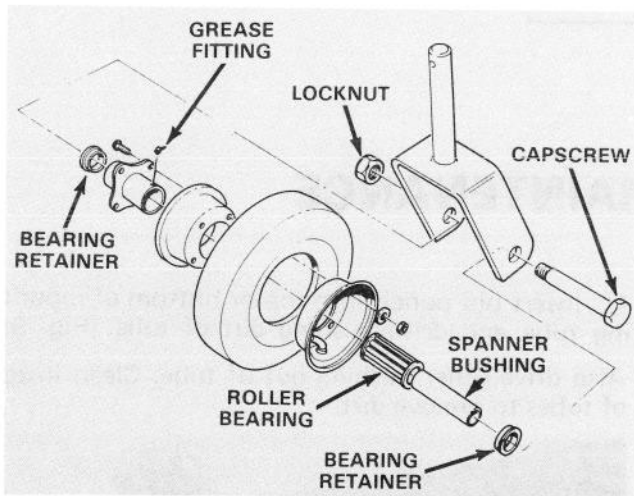

Figure 10
1. Remove locknut from capscrew holding castor wheel assembly between castor fork (Fig. 10). Grasp castor wheel and slide capscrew out of fork.
Note: Account for the two bearing retainers (Fig. 10).
2. Tip wheel to the side and allow roller bearing and spanner bushing to fall out (Fig. 10).
6. Pump more grease through grease fitting on wheel (Fig. 10) until bearing is greased thoroughly.